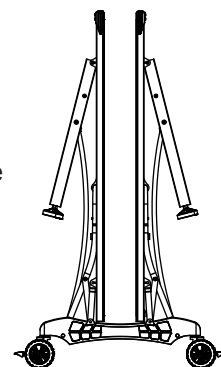

Figure 9
3. Raise other table half in the same manner. See **Figure 9**.